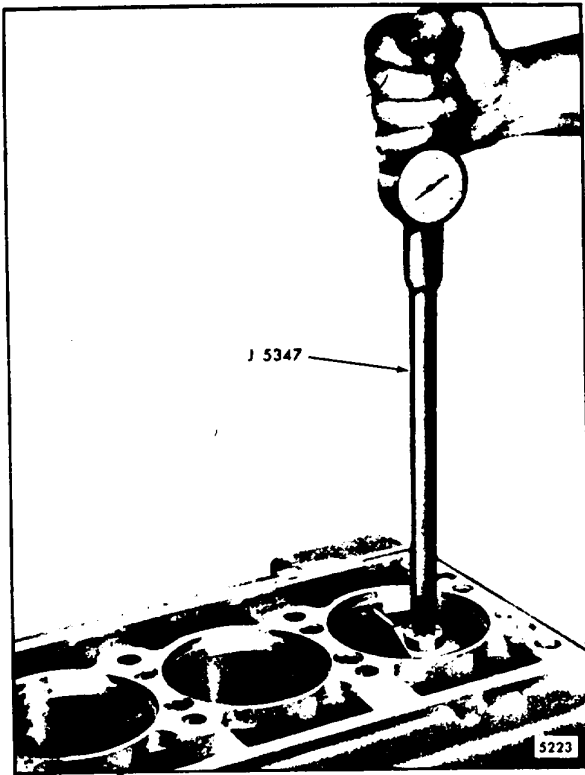
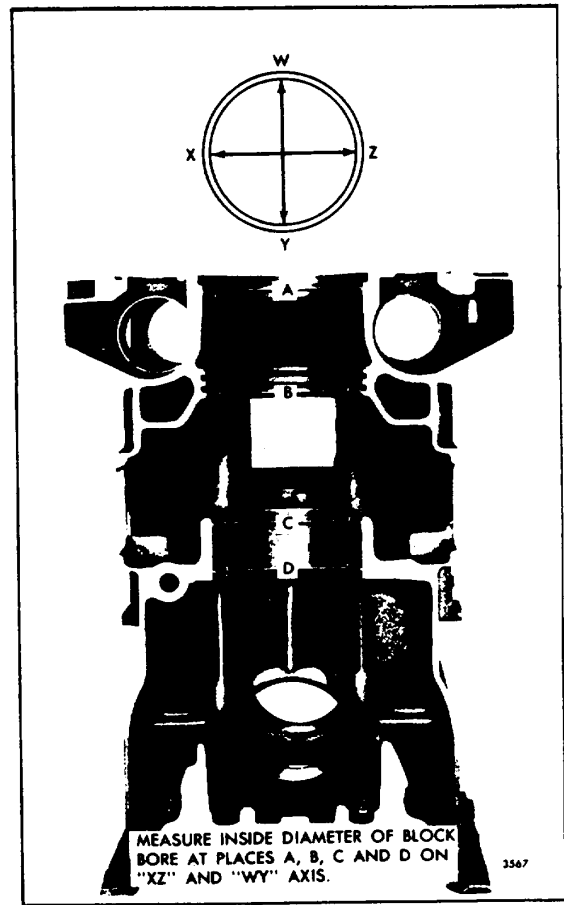

Fig. 6 - Checking Cylinder Block Bore with Tool J 5347
Fig. 7 - Block Bore Measurement Diagram
- b. Measure the entire bore of each cylinder with cylinder bore gage J 5347 (Fig.6.) which has a dial indicator calibrated in .0001 " increments. Use dial bore gage setting tool J 23059 to preset the cylinder bore gage to zero. Measure each block bore at the positions indicated in Fig.7., on axis 90 ' apart. If the diameter does not exceed 4.5235 " at position "A", 4.4900 " at position "B" (and a sealing problem hasn't occurred), or 4.3595 " at position "C" and "D", then the block may be reused. Also, the taper and out of round must not exceed .0015 ".